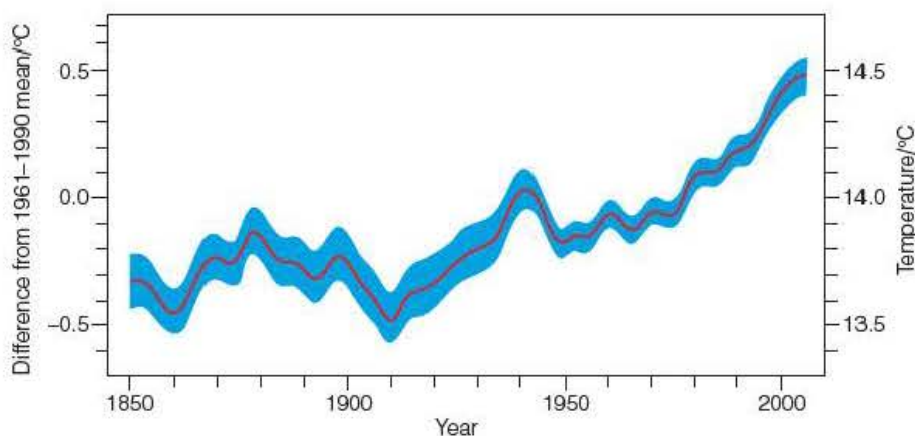

Figure 19.6 ◀
- 11 The blue area on either side of the graph line in Figure 19.6 is narrower for the year 2000 than for the year 1900. Suggest reasons for this.
- 12 How does the data in Figure 19.6 suggest that recent global warming is the result of human activities and not just the result of natural climate variations?